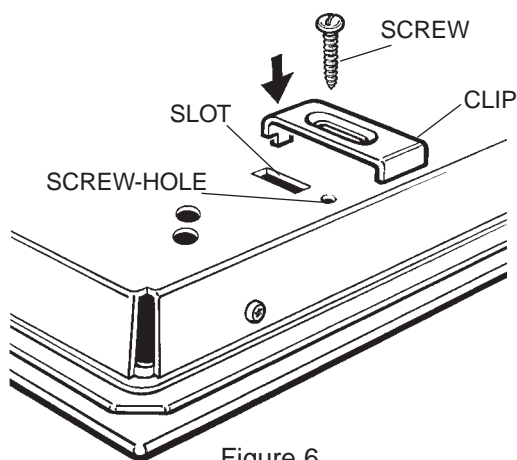
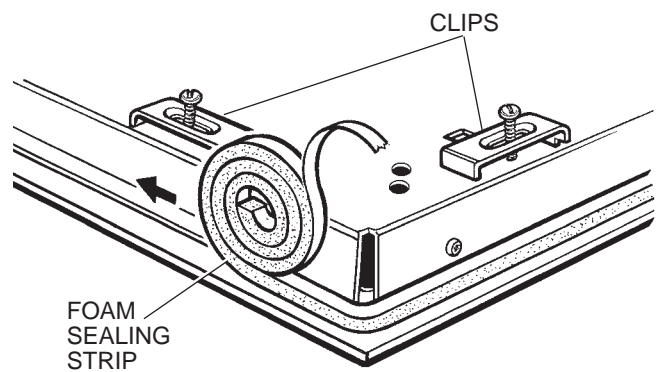

Figure 6
Figure 7
2. Fit the clips onto the hob by sliding the notched end into the slot and loosely screwing the screw into the screw-hole (Figure 6). Turn the clips round so that they are in line with the hob (Figure 7).
4. Stick the foam sealing strip around the underside of the hob, 5mm in from the edge, removing the adhesive backing as you go (Figure 7). When the sealant has been stuck round all four sides and meets up with itself, trim off any excess sealing strip, leaving a neat join.